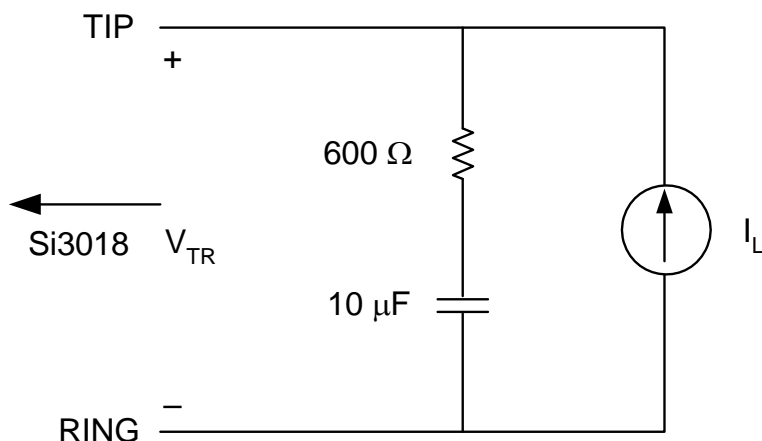

Figure 1. Test Circuit for Loop Characteristics
($V_D = 3.0$ to 3.6 V, $T_A = 0$ to 70 °C, see Figure 1)
- Measured at TIP and RING with 600 Ω termination at 1 kHz, as shown in Figure 1.
2. Measured at TIP and RING with 600 Ω termination at 1 kHz, as shown in Figure 1.